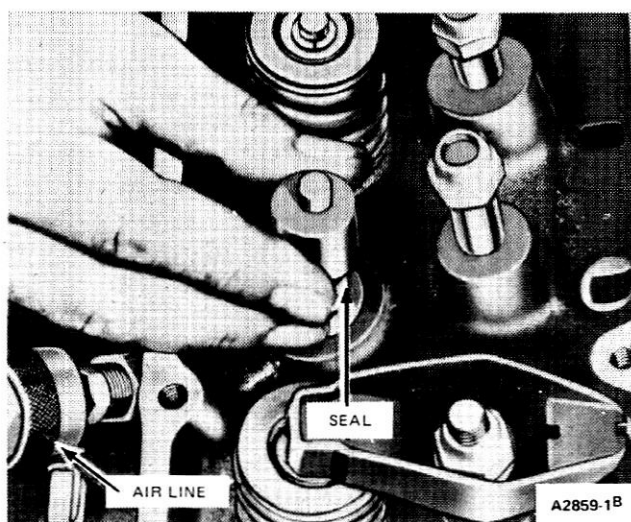

FIG. 16 Removing or Installing Valve Stem Seal
5. Remove and discard the valve stem seal (Fig. 16).
3. Install a new valve stem seal (Fig. 16). Use a 5/8-inch deep wall socket and a light hammer or mallet to seat the seal on the valve stem. Place the spring in position over the valve and install the valve spring retainer and sleeve, if so equipped. Compress the valve spring and install the valve spring retainer locks. Remove the compressor tool and stud nut.